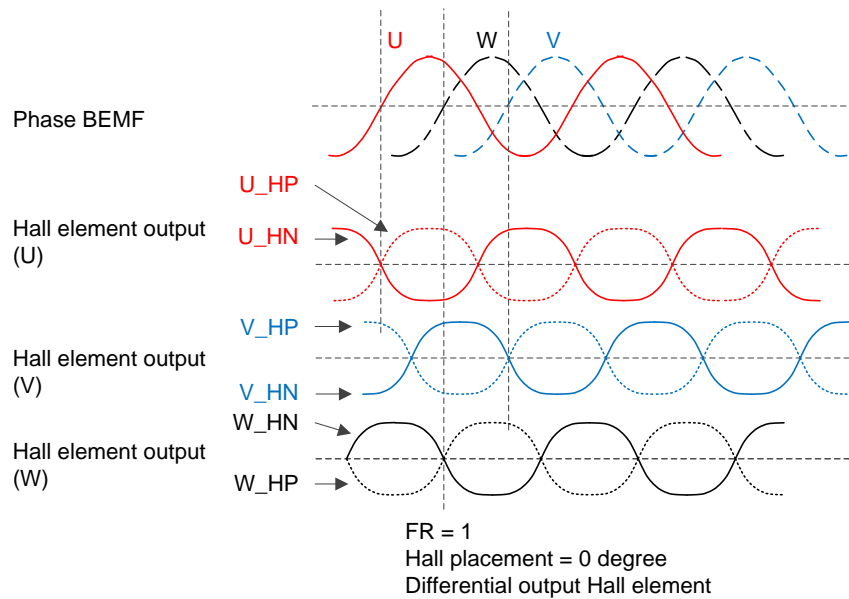
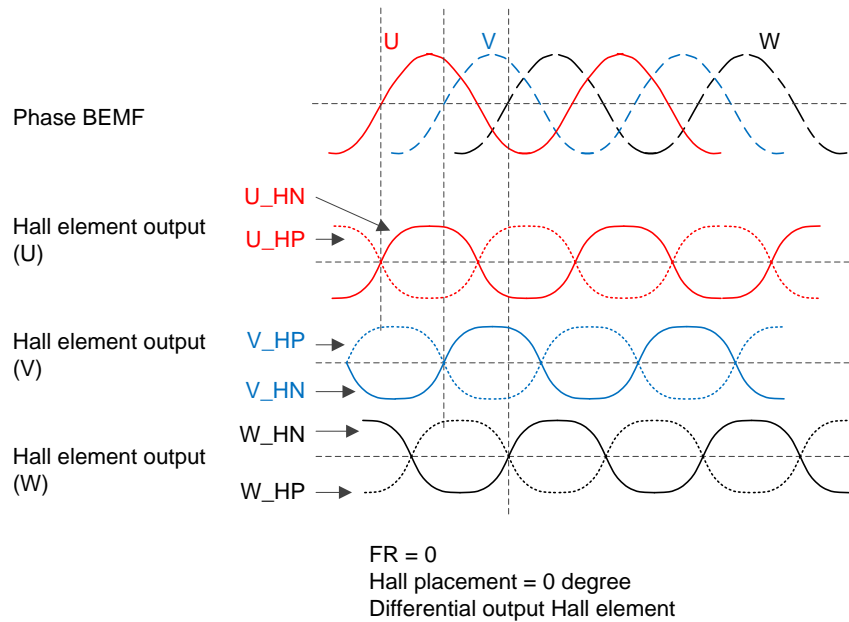
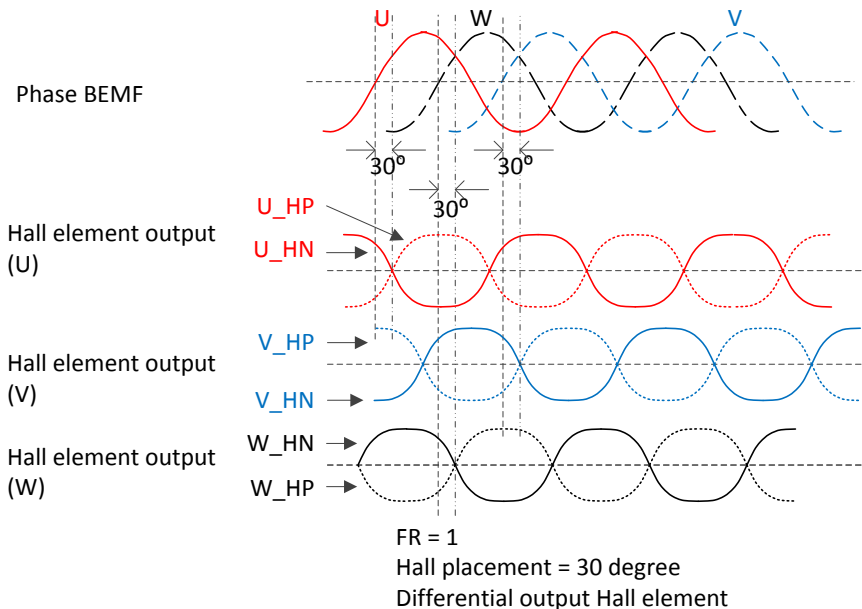

图 24. Correspondence Between Motor BEMF and Hall Signal (FR = 1, 0° Placement)
图 25. Correspondence Between Motor BEMF and Hall Signal (FR = 0, 0° Placement)
图 26. Correspondence Between Motor BEMF and Hall Signal (FR = 1, 30° Placement)
1. Phase U is leading phase W by 120°, phase W is leading phase V by 120°. The Hall signal positive output is aligned with respective phase BEMF. Choose FR = 1 and 0° placement option (see 图 24).
2. Phase U is leading phase V by 120°, phase V is leading phase W by 120°. The Hall signal positive output is aligned with respective phase BEMF in the opposite direction. Choose FR = 0 and 0° placement option (see 图 25).
3. Phase U is leading phase W by 120°, phase W is leading phase V by 120°. The Hall signal positive output is 30° lagging of respective phase BEMF. Choose FR = 1 and 30° placement option (see 图 26).
6. Turn the rotor manually in clock-wise direction. If the waveform on probe-1 (U-phase) is leading probe-2 (terminal-B) by 120°, name the terminal-B as phase W and terminal-C as phase V. Else if waveform on the probe-2 is leading probe 1 (U) by 120°, terminal-B as V, terminal-C as W. At this stage all three phases of the motor are identified.
9. After phase UVW and Hall UVW positive negative are identified, manually rotate the motor again, check if the result matches 图 24 and 图 25 (0° placement) or 图 26 and 图 25 (30° placement).